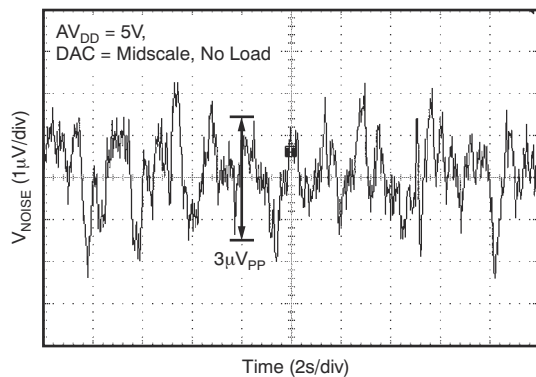

图 7-24. DAC Output Noise, 0.1-Hz to 10-Hz Bandwidth
(5) For more details, see Figure 7-24.